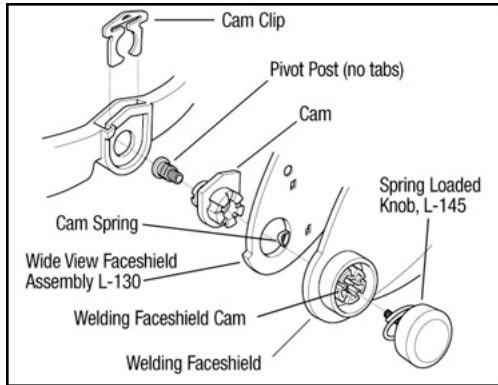

Fig. 15: Removing and Attaching a Combination Faceshield (L-705SG and L-905SG)
- Install the cam mechanisms (Fig. 15).